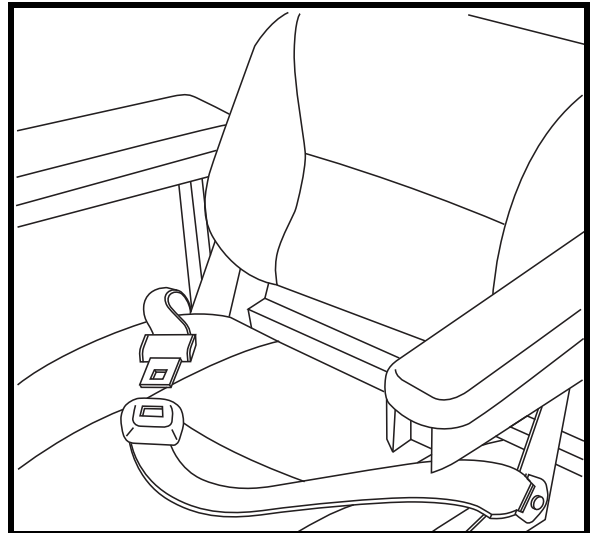

Figure 20. Positioning Belt
Your scooter seat may be equipped with an auto-type positioning belt that can be adjusted for operator comfort. See figure 20. The positioning belt is designed to help support the operator so that he or she does not slide down or forward in the seat. The positioning belt is not designed for use as a restraining device.
1. Insert the metal tab on the right side of the belt into the plastic housing on the opposite strap until you hear a “click.” See figure 20.